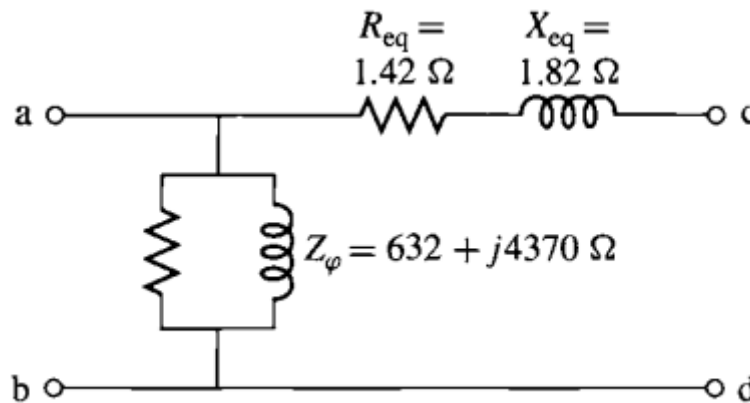

Figure Q6b Transformer Equivalent Circuit
- (b) A 50-kVA, 50 Hz, 2400:240 V single-phase distribution transformer has the equivalent circuit referred to high voltage side shown in Figure Q6b. If the load voltage is 230 V and load current is 70% of the full load current at unity power factor.